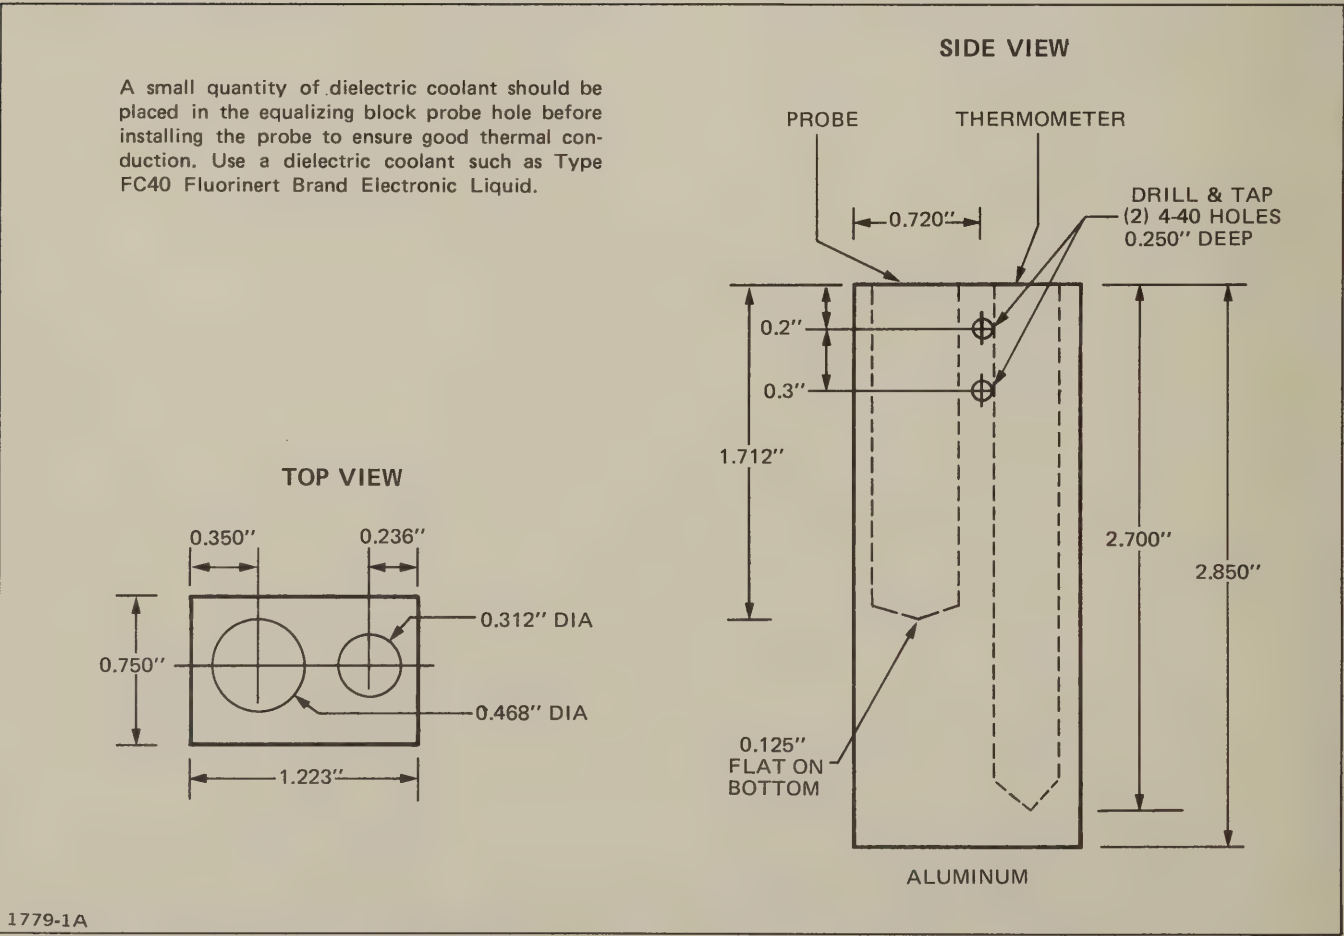

Fig. 6-2. Temperature probe equalizing block.
- e. Remove Temperature Probe and reference thermometer from solution and place in temperature-equalizing block (see Figure 6-2) at room temperature. Use dielectric fluid (see note in Figure 6-2).